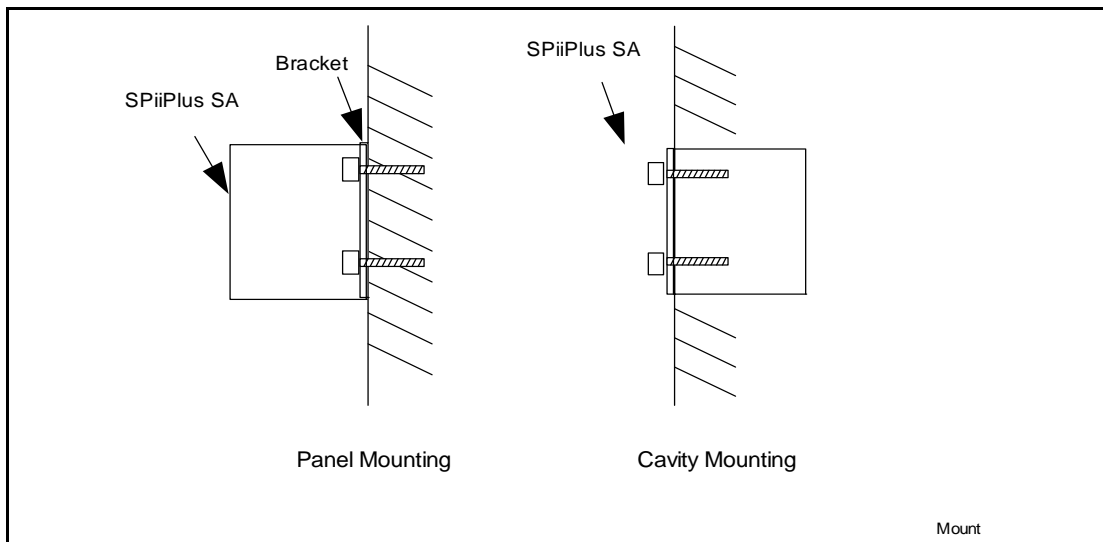

Figure 4 Mounting Options - Side View
- ❑ Figure 4 - Mounting Options - Side View